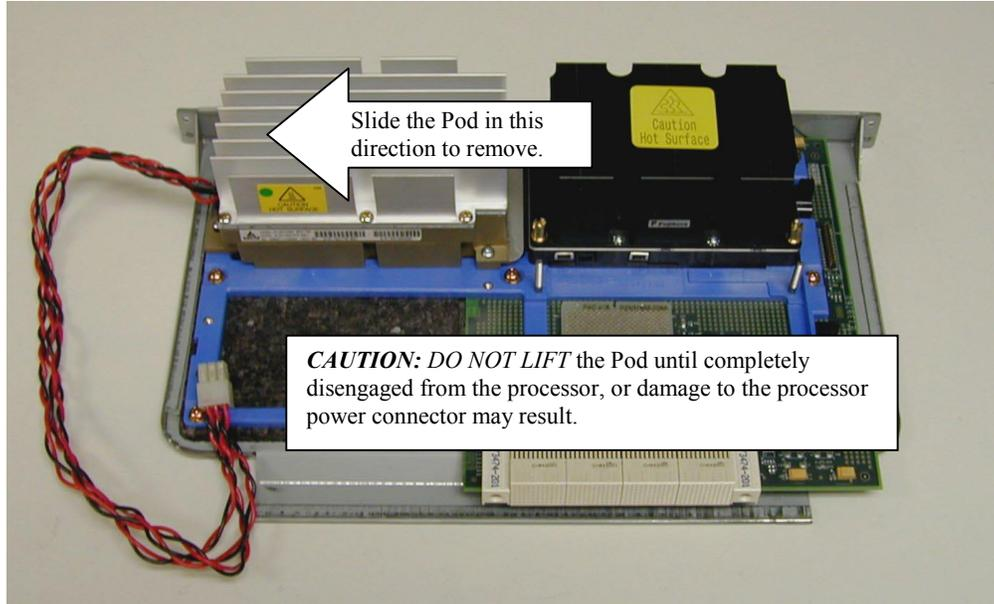

Figure 8. Removing the Power Pod
1. After removing the four- (4) retaining screws from the base of the Power Pod, set the screws safely aside.
2. Disengage the Power Pod from the processor by sliding it outward and away from the processor (as shown in Figure 8).